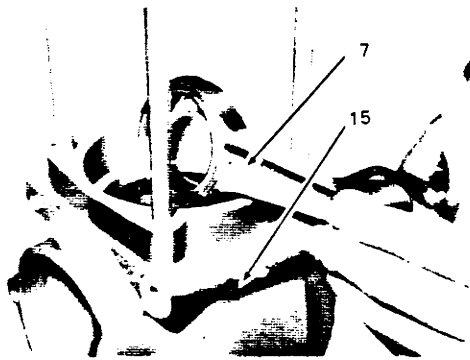

Fig. 4-43
(5) Install connecting rod (7) into crankcase (15) as shown in Fig. 4-43.